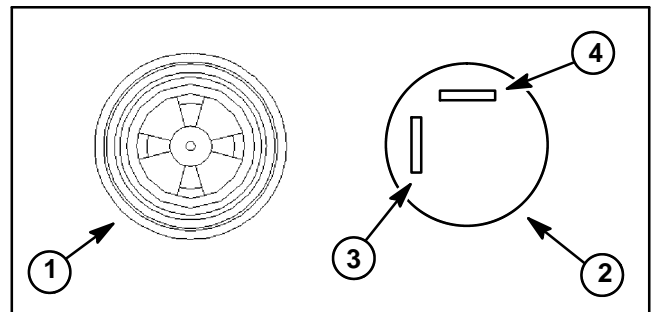

Figure 28
2. Correctly connect 12VDC source to the alarm terminals (Fig. 28).